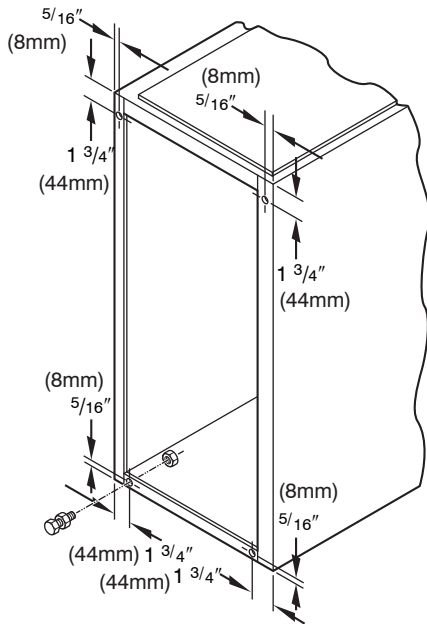

Fig. 10 - Leveling Legs
In upflow position with side return inlet(s), leveling legs may be used. (See Fig. 10) Install field-supplied, 5/16 x 1-1/2 in. (8 x 38 mm) (max) corrosion-resistant machine bolts, washers and nuts.
1. Position furnace on its back. Locate and drill a hole in each bottom corner of furnace. (See Fig. 10)